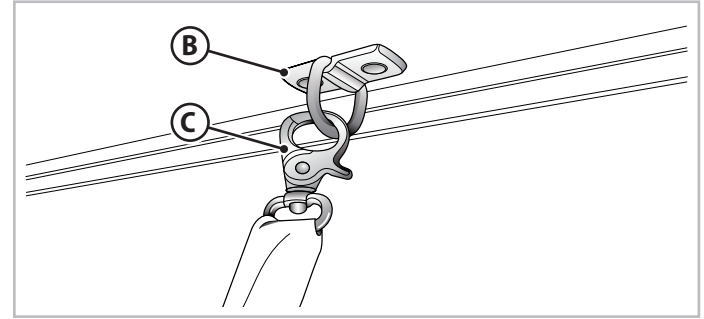
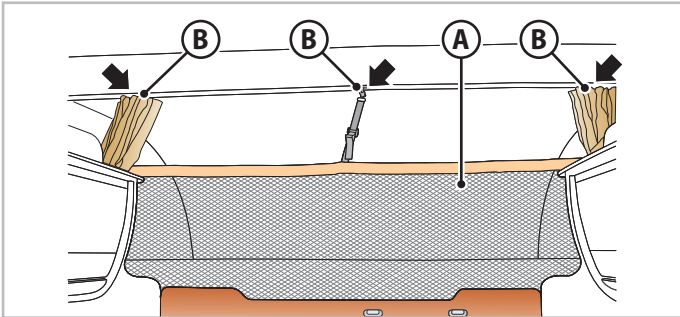

Fig.6.19 - Protective net hook
Fig.6.18 - Protective net for pull-down bed over dinette
- Secure the protective net (**A** - Fig.6.18) using the hooks (**B** - Fig.6.18 and Fig.6.19) the rings designed for this purpose (**C** - Fig.6.19).